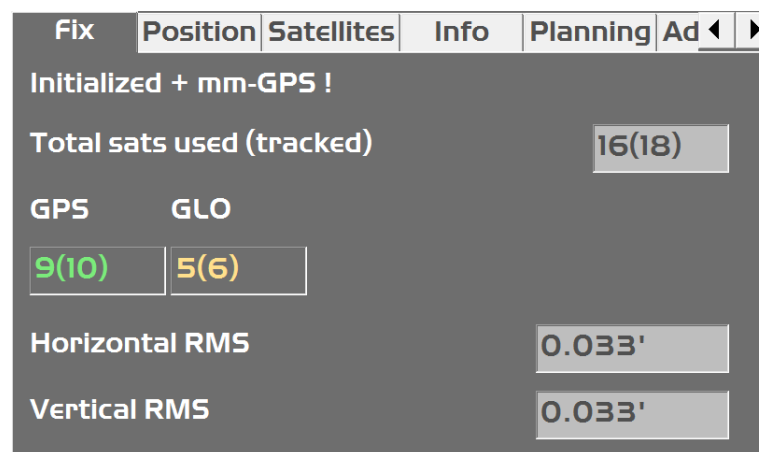

Figure 11: GPS Information Tab List
2. Tap the **GPS info** button to view the GPS information tab list (Figure 11).